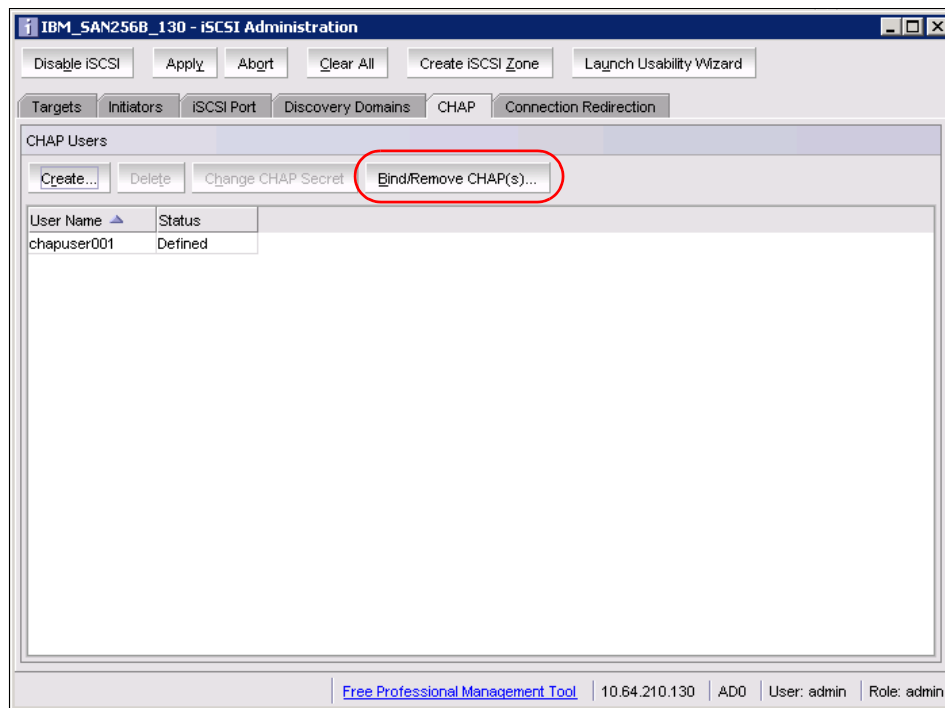

Figure 11-66 Newly created CHAP user listed
4. On the CHAP tab, where our CHAP user is now listed, configure the two iSCSI VTs for CHAP authentication by clicking **Bind/Remove CHAP(s)**. See Figure 11-66.